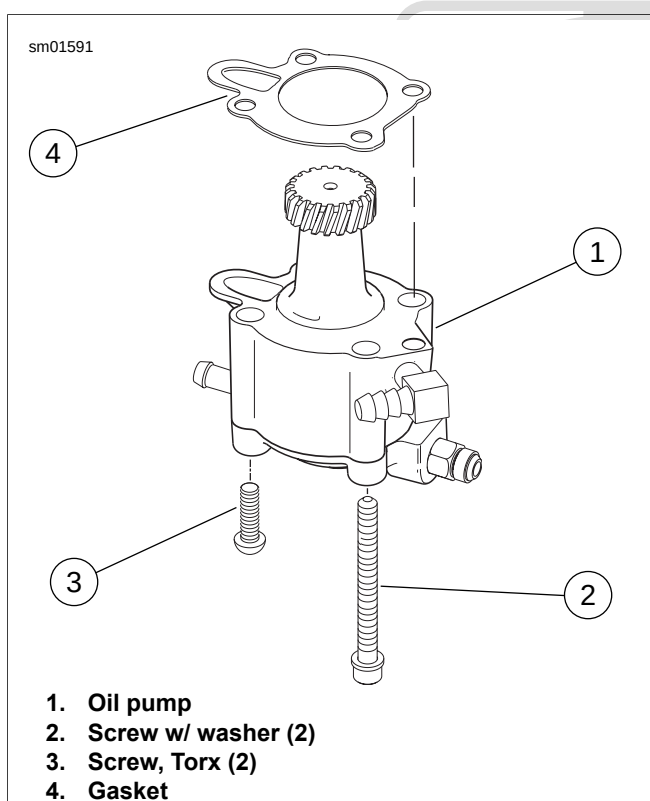

Figure 3-104. Oil Pump: XL Models
2. See Figure 3-104. Carefully remove two screws (2) that secure pump to crankcase. Pump will drop with screws removed. Discard mounting gasket.